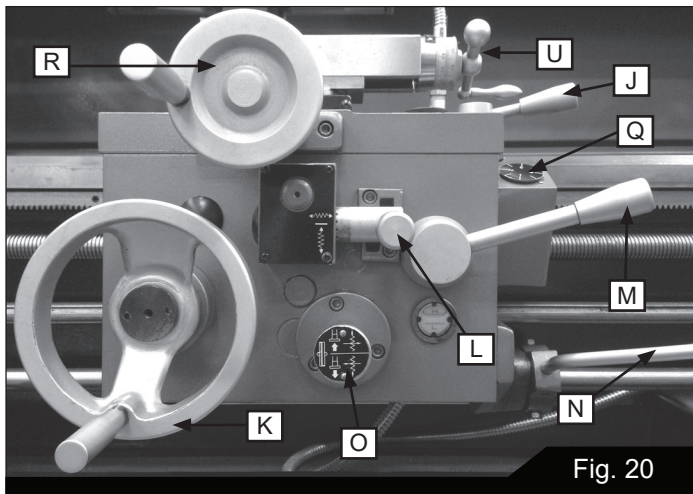

Fig. 20
5. **Carriage Lock (J, Figure 20):** Located on top right of carriage. Turn clockwise to lock, counterclockwise to unlock.
6. **Carriage Handwheel (K, Figure 20):** Located on the apron. Rotate handwheel clockwise to move the carriage assembly toward the tailstock (right). Rotate the wheel counterclockwise to move the carriage assembly toward headstock (left). A scale is mounted to the ring, graduated in 0.005 inch increments, and can be calibrated by loosening the thumb screw lock and rotating the ring as needed. Always retighten ring before using the feed.
7. **Feed Direction Lever (O, Figure 20):** Push in to move from left to right and pull out to move from right to left.
8. **Half Nut Lever (M, Figure 20):** Located on the front of the apron assembly. Engages the leadscrew for threading operations.
9. **Spindle Direction Control Lever (N, Figure 20):** Move the lever to the right so that its tab clears the notch, then down for forward spindle rotation, or up for reverse spindle rotation. Allow the spindle to come to a stop
10. **Feed Engagement Lever (L, Figure 20):** Push to one of three positions; Up for crossfeed; Down for longitudinal; the middle position allows screws to be cut by engaging the half nut.
11. **Threading Dial (Q, Figure 20):** Indicates the point on the leadscrew where the half nut can be re-engaged to continue inch threading.
12. **Cross Slide Handwheel (R, Figure 20):** Located above the apron assembly. Clockwise rotation moves the cross slide toward the rear of machine. The accompanying scale is graduated in 0.002 inch increments, and can be calibrated by loosening the thumb screw lock and rotating the ring as needed. Always re-tighten ring before using the feed.
14. **Compound Rest Handle (U, Figure 20):** Rotate clockwise or counterclockwise to position. The accompanying scale on the collar is graduated in 0.001 inch increments.
4. Set feed direction lever (see L, Figure 20) to correct position (neutral).
5. Engage the half nut (M, Figure 20). The half nut must be engaged during the entire threading process when doing metric, diametral, and modular threading.